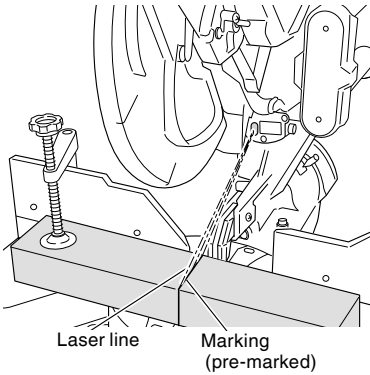

Fig. 21
- (3) After adjusting the position of the laser line, draw a right-angle ink line on the workpiece and align the ink line with the laser line. When aligning the ink line, slide the workpiece little by little and secure it by vise at a position where the laser line overlaps with the ink line. Work on the grooving again and check the position of the laser line. If you wish to change the laser line's position, make adjustments again following the steps from (1) to (3).
**NOTE:** Check and make sure on a periodic basis if the position of the laser line is in order. As regards the checking method, draw a right-angle ink line on the workpiece with the height of about 25/32" (20 mm) and the width of 5-29/32"(150 mm), and check that the laser line is in line with the ink line [The deviation between the ink line and the laser line should be less than the ink line width (0.5 mm)]. (Fig. 21)